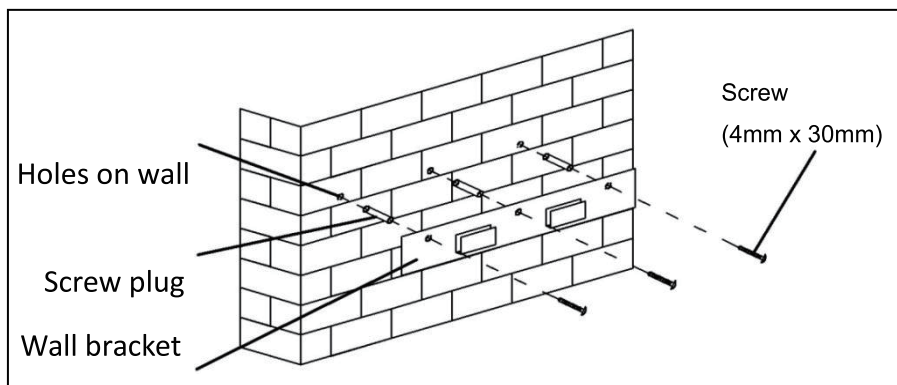

Fig.4
- Drill 3 x 8mm holes to accommodate the bracket. Screw and tighten the bracket onto the wall with the screws & screw plugs provided. (Fig.4)